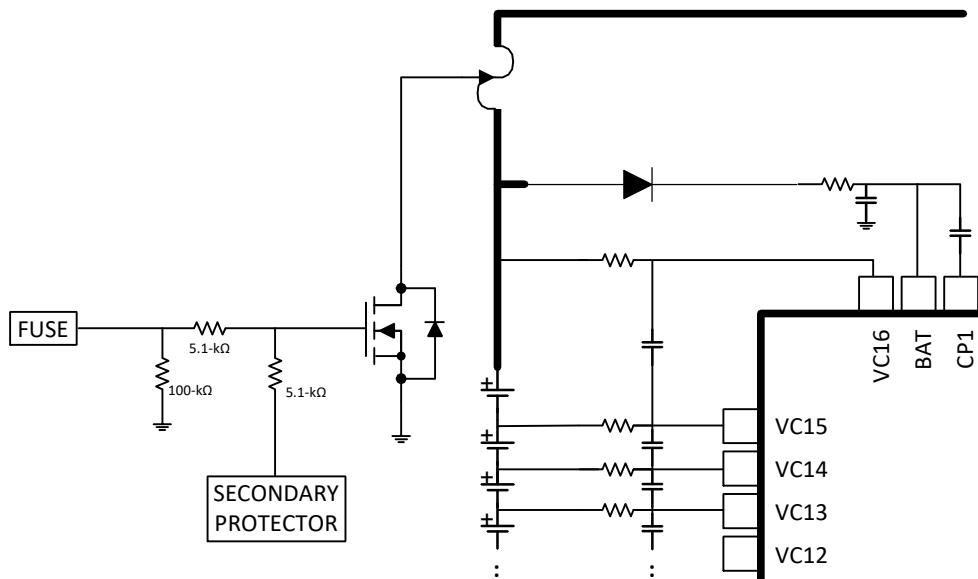

图 12-1. FUSE Pin Operation
The FUSE pin on the BQ76952 device can be used to blow a chemical fuse in the presence of a Permanent Fail (PF), as well as to determine if an external secondary protector in the system has detected a fault and is attempting to blow the fuse itself. The pin can drive the gate of an NFET, which can be combined with the drive from an external secondary protector, as shown in 图 12-1. When the FUSE pin is not asserted by the BQ76952 device, it remains in a high-impedance state and detects a voltage applied at the pin by a secondary protector. The device can be configured to generate a PF if it detects a high signal at the FUSE pin.